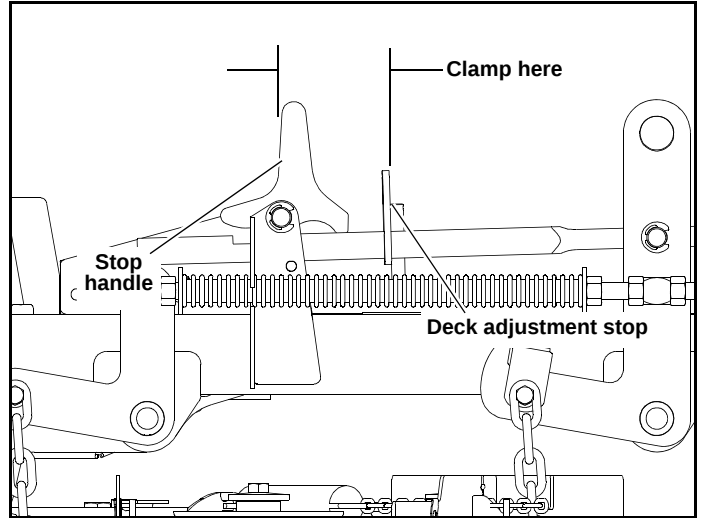

Figure 7-2
5. Clamp the height adjusting stop against the stop handle. This will assure that the height will not move during the setting process. Otherwise, spring pressure from the deck lift springs will tend to pull the stop away from the handle. Figure 7-2